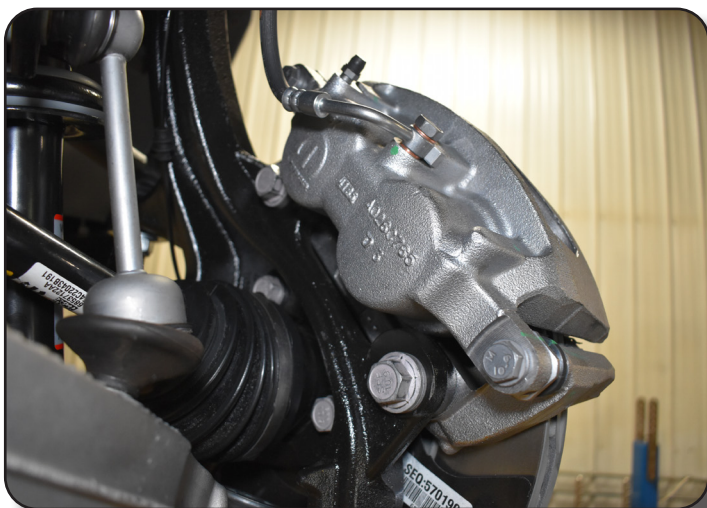

Figure 57
89. Install brake calipers to knuckle with OE mounting bolts. Fig. 57 Apply high temperature rated thread locker and torque to 59 + 55° ft-lbs.